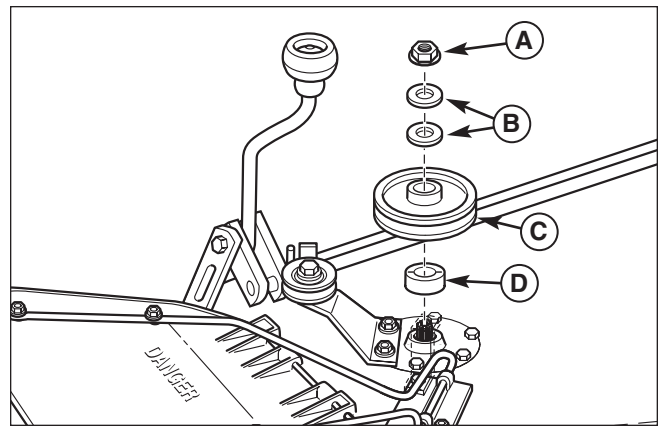

Figure 11. Remove Hardware
2. Remove and discard locknut (A, Figure 11), and spring washers (B). Retain pulley (C) and spacer (D).